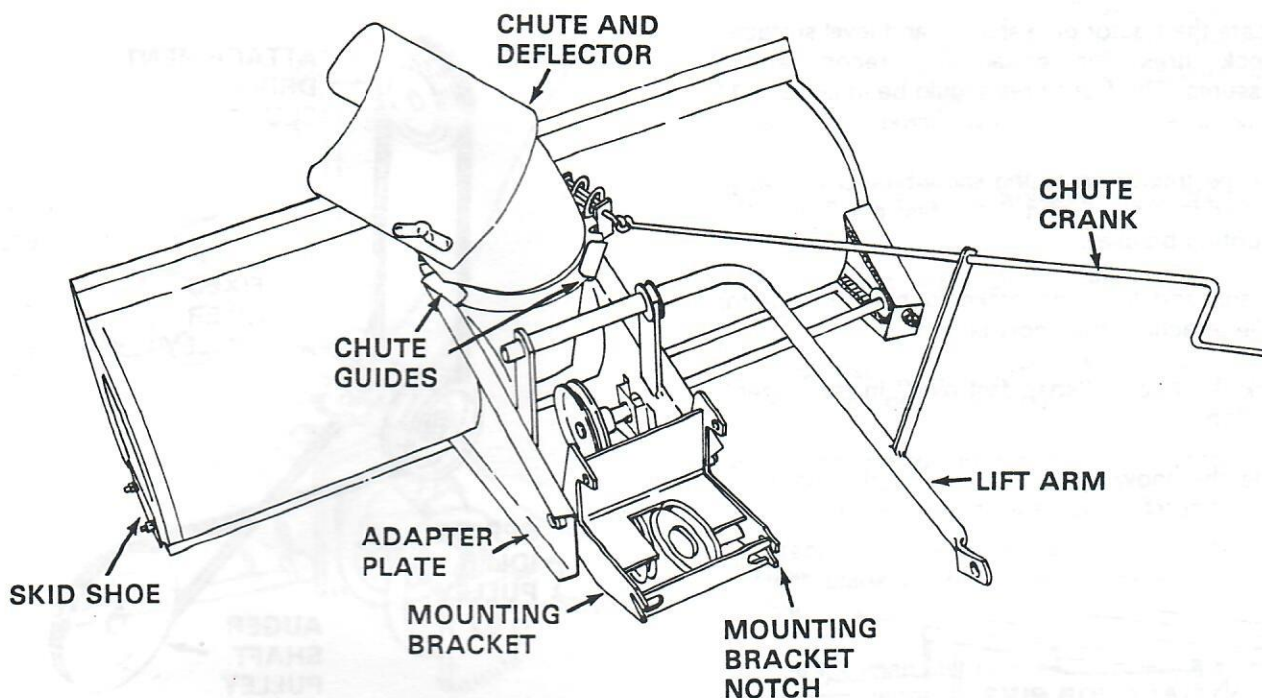

FIGURE 6 Snow Blower (Assembled)
2. Position the mounting bracket between the auger housing adapter plates as shown in Figure 6.